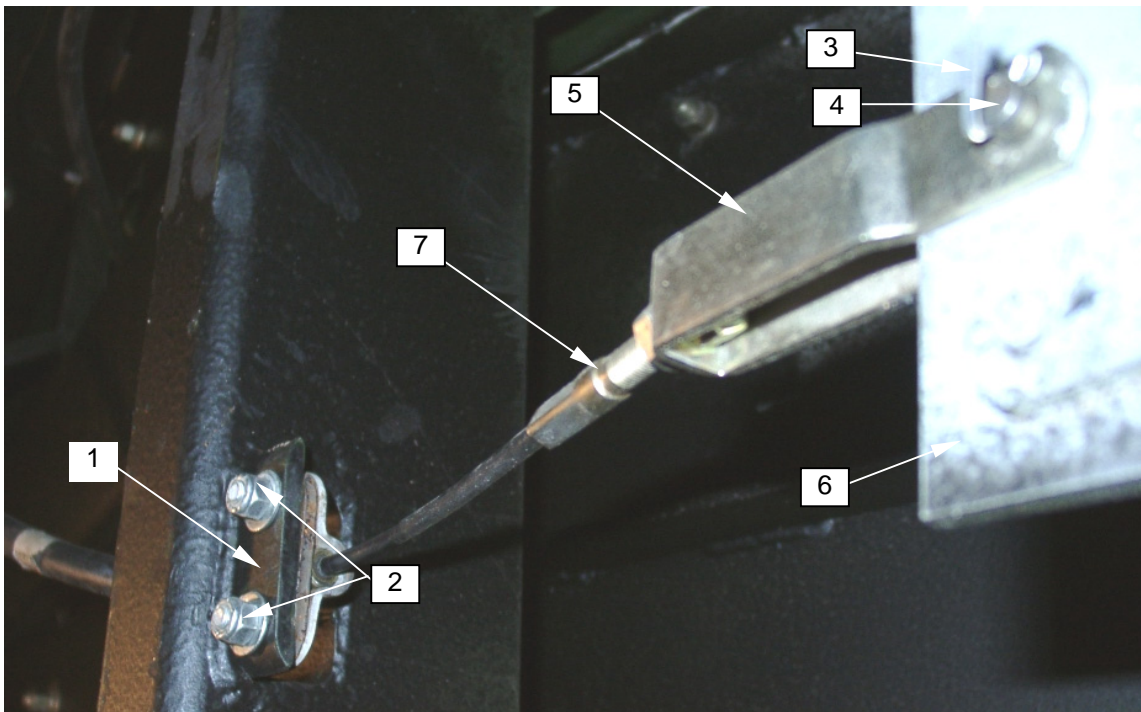

Figure 8. Installing Main Brake Cable
4. Locate parking brake cable clamp (**figure 8, item 1**) beneath trailer.
5. Loosen nuts (**figure 8, item 2**) on clamp and remove cable.
6. Remove cotter pin (**figure 8, item 3**) and retaining pin (**figure 8, item 4**) on cable bracket (**figure 8, item 5**).
7. Slide cable clamp (**figure 8, item 5**) off of spreader bar (**figure 8, item 6**).
8. Unscrew parking brake cable (**figure 8, item 7**) from cable bracket (**figure 8, item 5**).
10. Feed new cable through cable clamp (**figure 8, item 1**).
11. Screw new cable into cable bracket (**figure 8, item 5**).
12. Slide cable clamp (**figure 8, item 5**) on to spreader bar (**figure 8, item 6**).
13. Install retaining pin (**figure 8, item 4**). Secure with cotter pin (**figure 8, item 3**).
14. Place new cable into clamp (**figure 8, item 1**) and tighten nuts (**figure 8, item 2**).